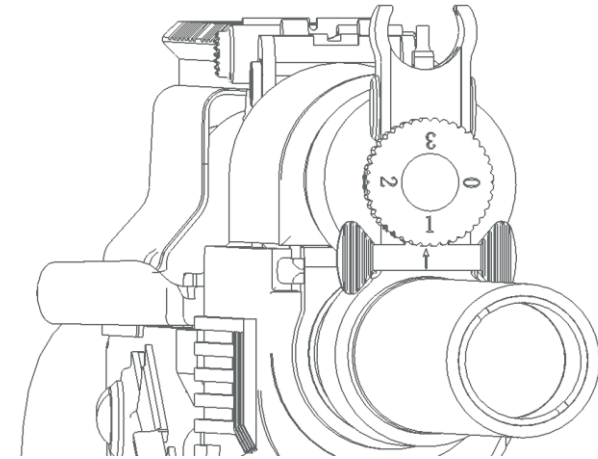

Fig. 7 Indication of Regulator
3.6.2. Normally the number "1" should be aligned with "↑" on the mortise lock of the regulator dial (see Fig.7).